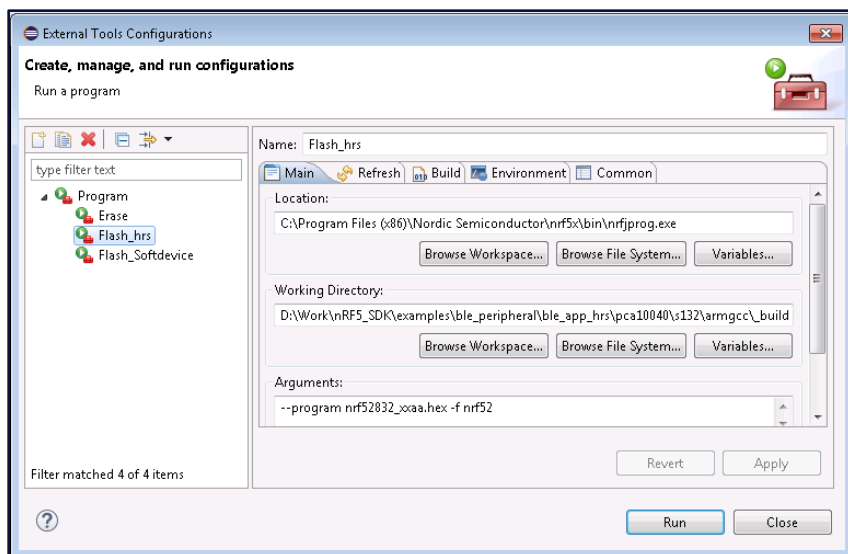

Figure 23: Adding Flash\_hrs to external tools configurations
7. Click **Apply** and then **Run** (Figure 23).